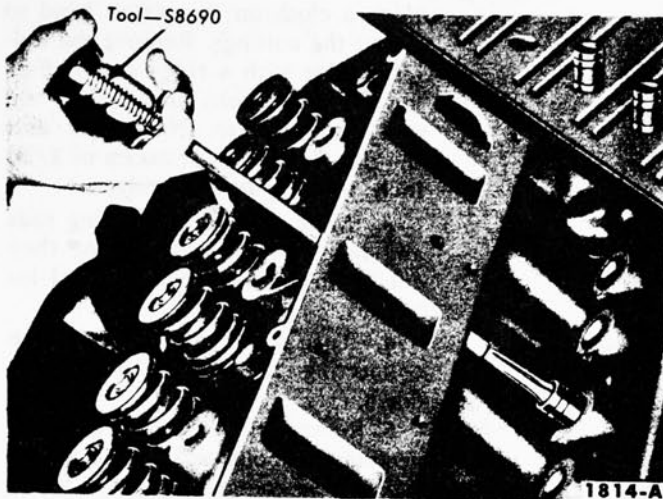

FIG. 17—Hydraulic Valve Lifter Removal
12. If the hydraulic valve lifters can not be removed with the fingers, remove them with the tool shown in Fig. 17.